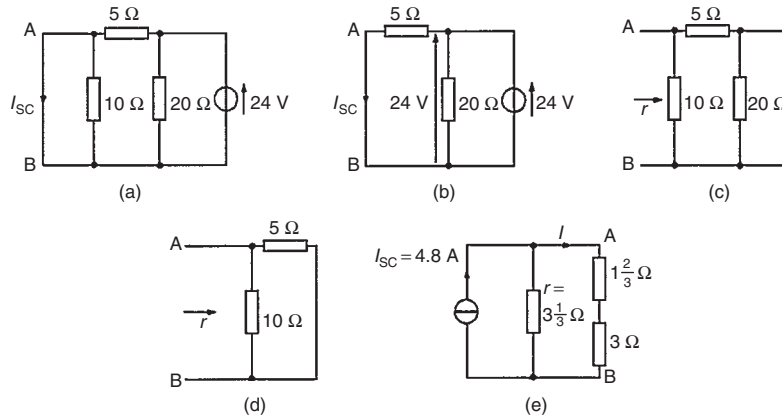

Figure 13.61
- (i) The branch containing the 3 Ω resistance is short-circuited as shown in Fig. 13.61(a)
(ii) From the equivalent circuit shown in Fig. 13.61(b),
(iii) If the 24 V source of e.m.f. is removed the resistance ‘looking-in’ at a break made between A and B is obtained from Fig. 13.61(c) and its equivalent circuit shown in Fig. 13.61(d) and is given by:
(iv) From the Norton equivalent network shown in Fig. 13.61(e) the current in the 3 Ω resistance is given by: